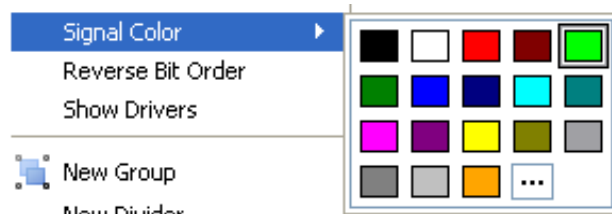

Figure 4-27: Changing the Signal Color
2. Select **Signal Color**, and pick a color from the color palette or a custom color by clicking on the ellipsis (...) button (Refer to Figure 4-27).